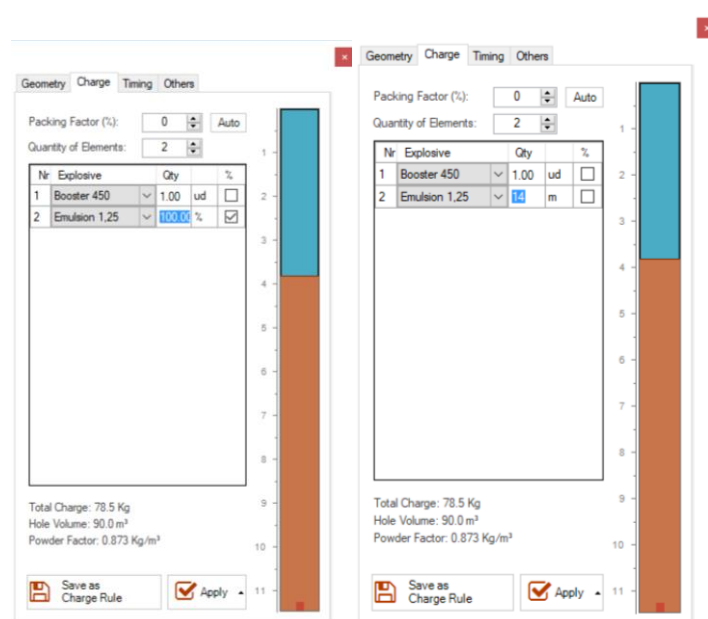

Fig. 215 - Left (A): Adding column charge by percentage; Right(B): Adding column charge by meters
- by percentage: the user selects the hole percentage to be filled by the product (Fig. 215 A)
- by meters: the user selects the meters to be completed by using the product (Fig. 215 B)